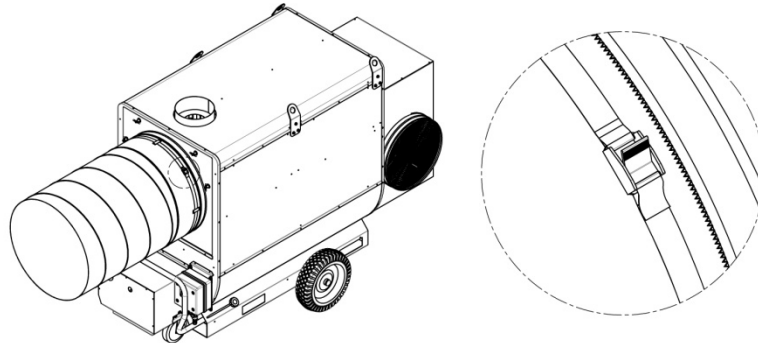

Fig. 3.8.5
- Connect the selected flexible hose(s) to the heater outlet(s) (and inlet, if desired) locking the fixing belt as shown (Fig. 3.8.5)